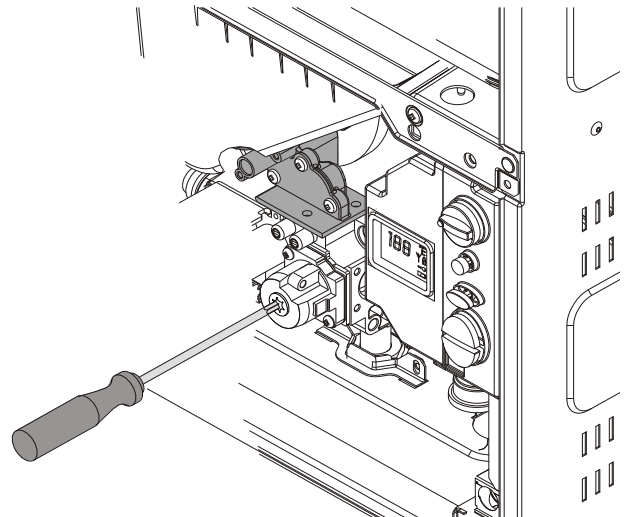

Fig. 38
- ▶ Remove yellow painted #40 Torx cover from the front of the gas valve. (Fig. 38 ) A plastic #40 Torx screw will be revealed.